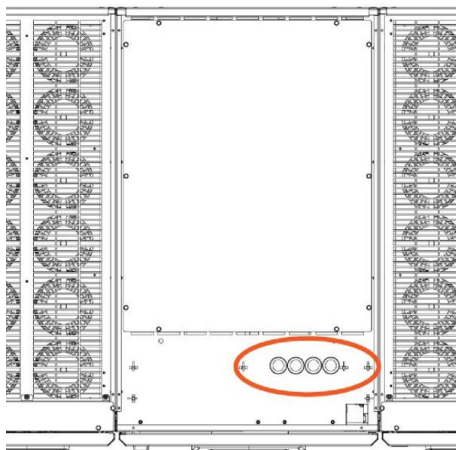

Figure 5.15 DC Busbar connections
3. Lay the parallel cables JR1 and JR2 across the top of the cabinet and route them through the cable glands near the front of the distribution frame (see Figure 5.15).